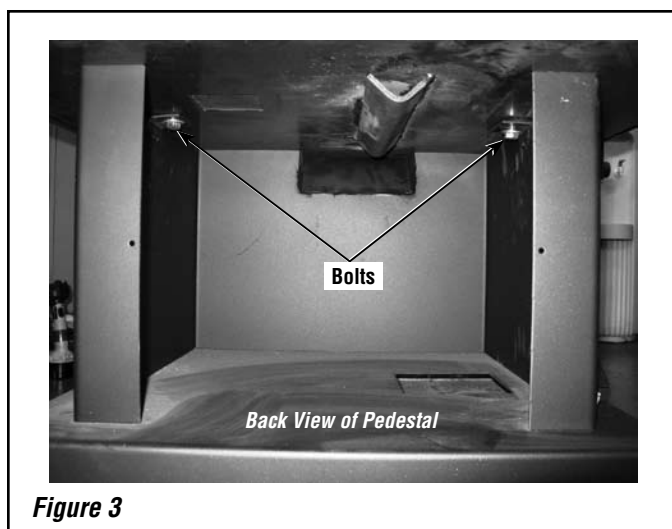

Figure 3
- Step 1.** From rear of stove, using a 9/16" wrench or socket, loosen both left and right pedestal mounting bolts but do not fully remove the bolts from threaded holes as shown in **Figure 3**.